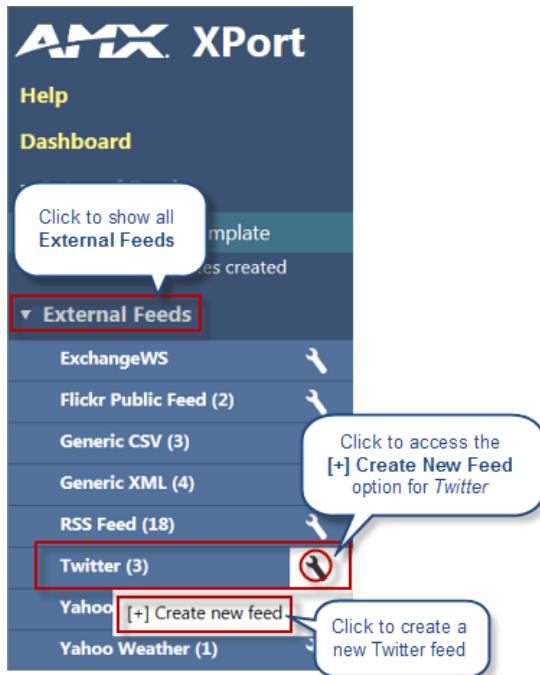

FIG. 179 XPort Dashboard page > External Feeds > Twitter [+] Create New Feed
1. In the XPort Server's Dashboard page under *External Feeds*, hover the cursor over the **Twitter** configuration icon to access the **[+] Create New Feed** option (FIG. 179):